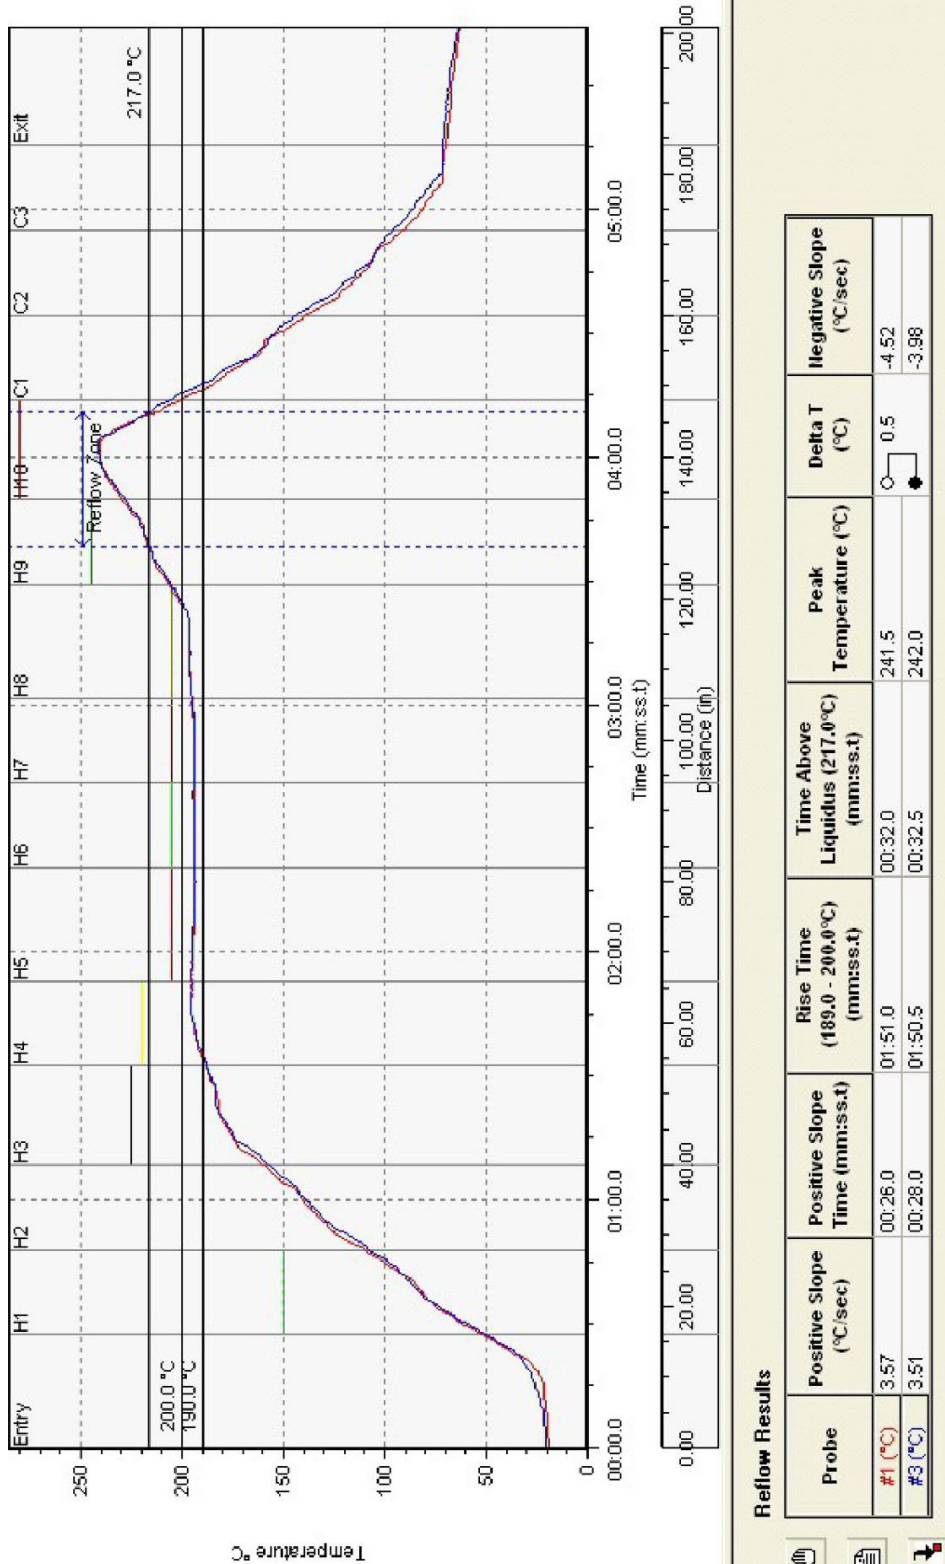

Figure 1. Lead Free (Pb-Free) Reflow Profile Example
- See Figure 1 for recommended reflow profile